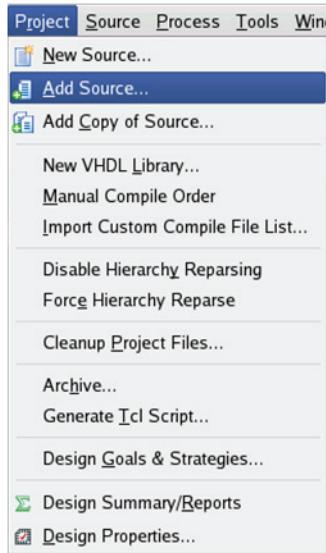

Figure 86: Adding Source Files to Project Navigator
85. Click **Project > Add Source** to add the source code for the AXI4-Stream DVI master to the system (Figure 86).